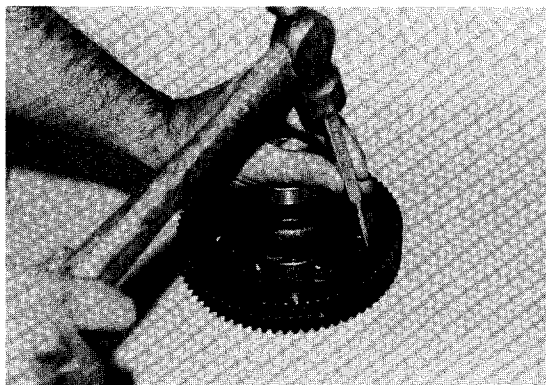

Figure 11-16
13. Press bearing (22) off intermediate gear assembly.
14. Disassemble differential cage gear by bending down the bolt locking tabs (27) on the ring gear (12) (Figure 11-16).